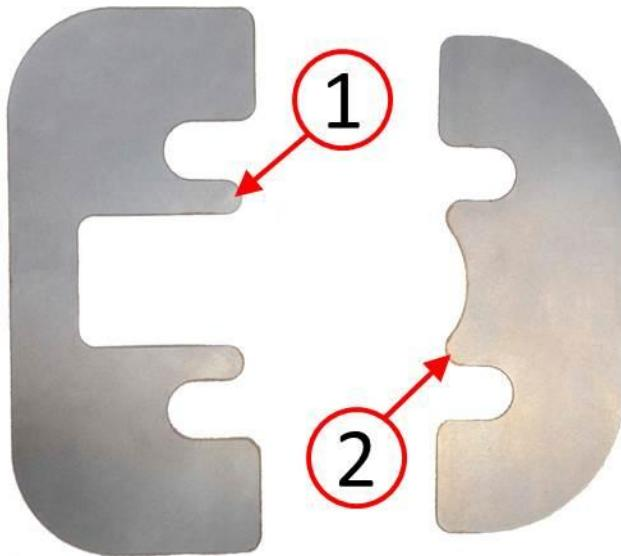

Fig. 1 Front And Rear Shim Identification
Rear axle alignment shims are available in a kit containing two shims and replacement spindle mounting bolts. Front shim (1) is used to correct an out of specification Toe-in condition, and the Rear shim (2) is used to correct an out of specification Toe-out condition. Only one of these shims, front or rear, will be used in the process of an alignment, the unused shim will be discarded (Fig. 1).